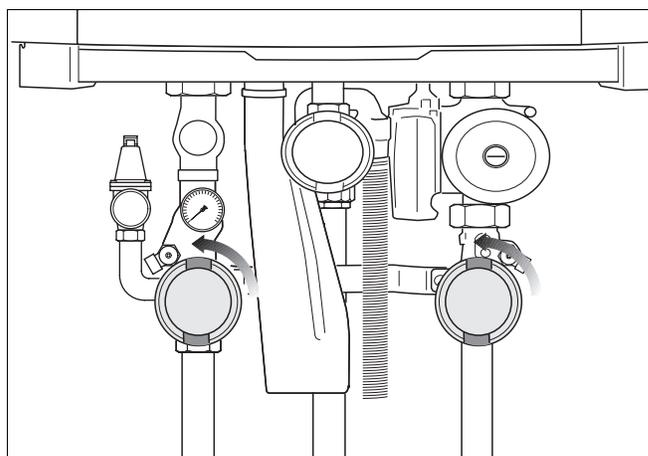

Fig. 49 Opening the isolating valves (here: open position)
- Open the heating supply and return isolating valves on the pump group (fig. 49). The open position is parallel to the pipe.